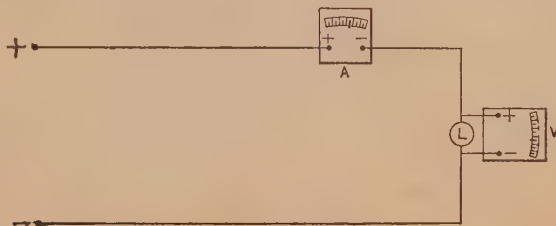

FIG. 15.
**Problem 38.** In Fig. 15 the voltmeter ( $V$ ) indicates 112 volts, and the ammeter ( $A$ ), 4.1 amperes. What is the resistance of the lamp ( $L$ )?